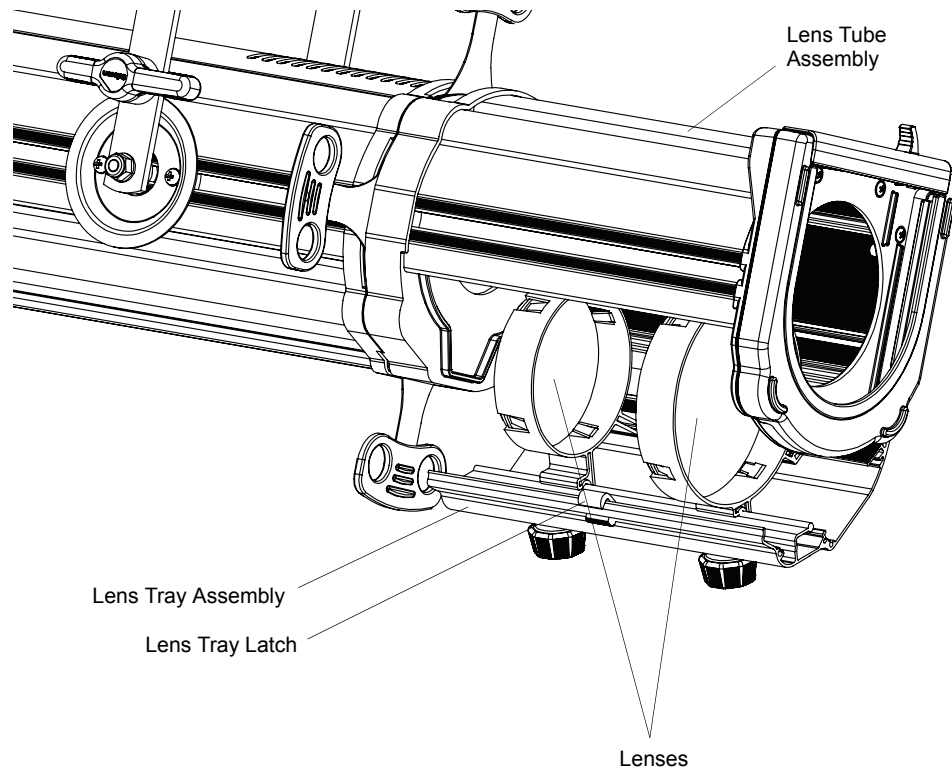

Figure 12: Lens Cleaning
- Step 2. As illustrated in **Figure 12 on page 35**, unlatch the lens tray assembly. Be careful as the lens tray assembly will swing open if not properly supported.